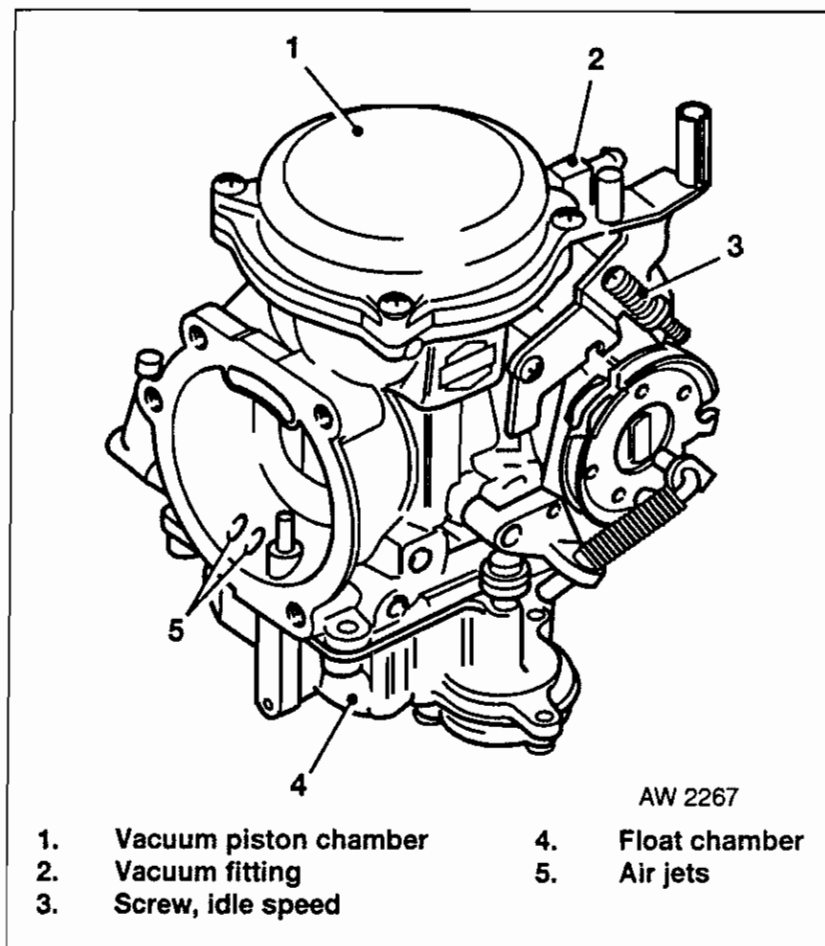

Fig 4.6 Carburettor
a. **General.** Fig 4.6 refers. The carburettor is a constant velocity, gravity fed type with a float operated inlet valve, a variable venturi, a throttle stop screw for idle speed adjustment and a fuel enrichment system for starting.